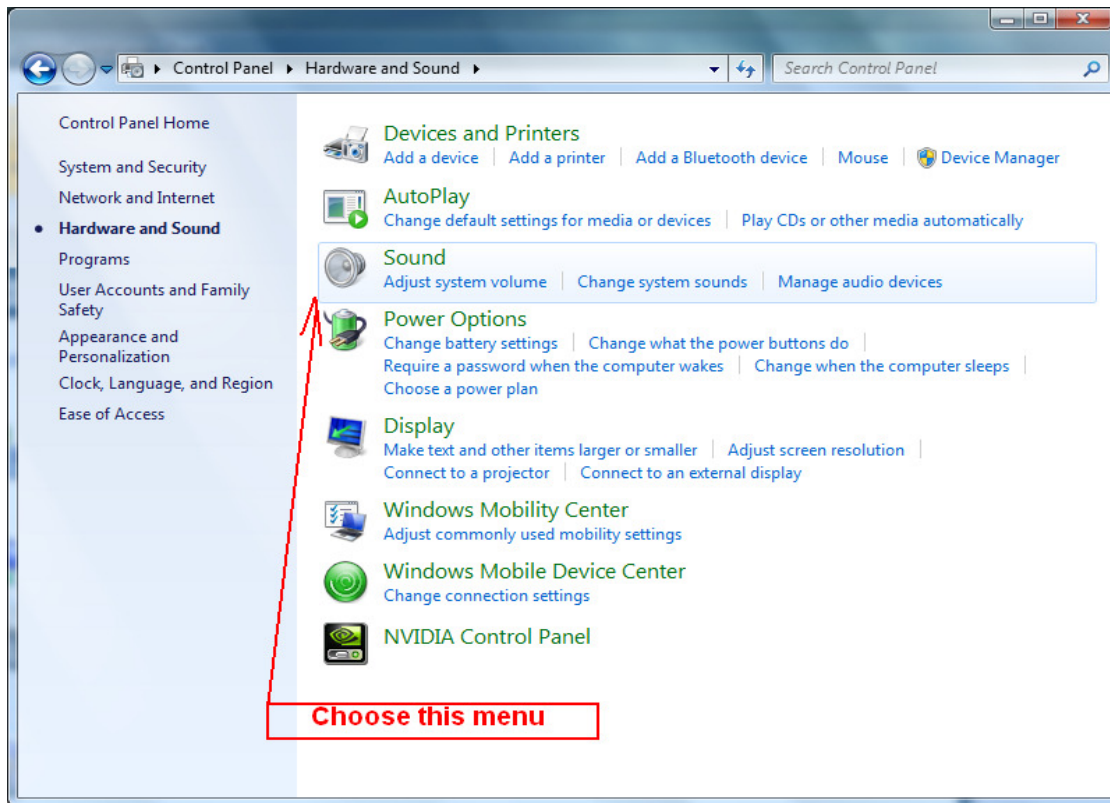

Figure 13 "Control Panel" -> "Hardware and Sound" window
- In “Hardware and Sound” choose menu “Sound” (see **Figure 13**.)